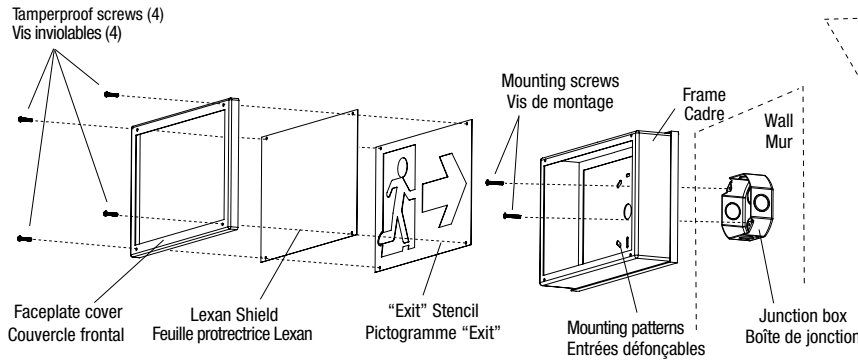

Fig. 1
WALL MOUNT - SINGLE FACE (See Fig.1):
1. Extend unswitched 24 hour AC supply of rated voltage to junction box or appropriate wiring (supplied by others). Leave at least eight (8) inches of slack wire. The circuit should not be energized at this time.
2. Disassemble the "EXIT" sign by removing the four (4) tamperproof screws (one in each corner) on the front cover / faceplate (Fig. 1).
MONTAGE MURAL - FACE SIMPLE (voir Fig. 1):
2. Démontez l'enseigne "EXIT" en enlevant les quatre (4) vis inviolables (une dans chaque coin) sur le couvercle avant / plaque frontale (Fig. 1).